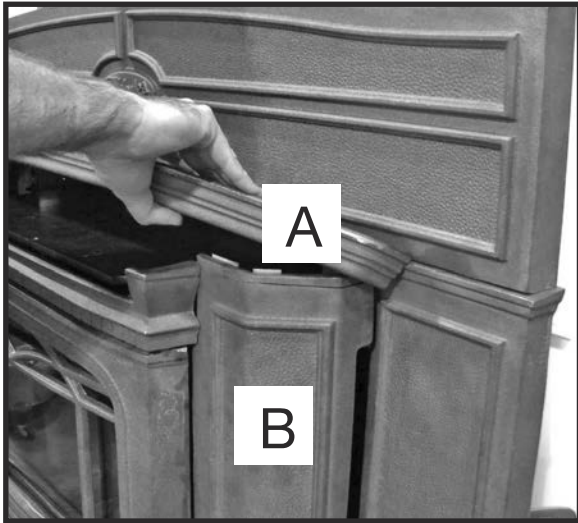

Figure 11: Removing top and fan shields.
2. Remove Top (A) by lifting up on the front edge and pulling towards you. Caution the Fan Shields (B) (Figure 11) may fall. Remove Shields by lifting up and to the sides.